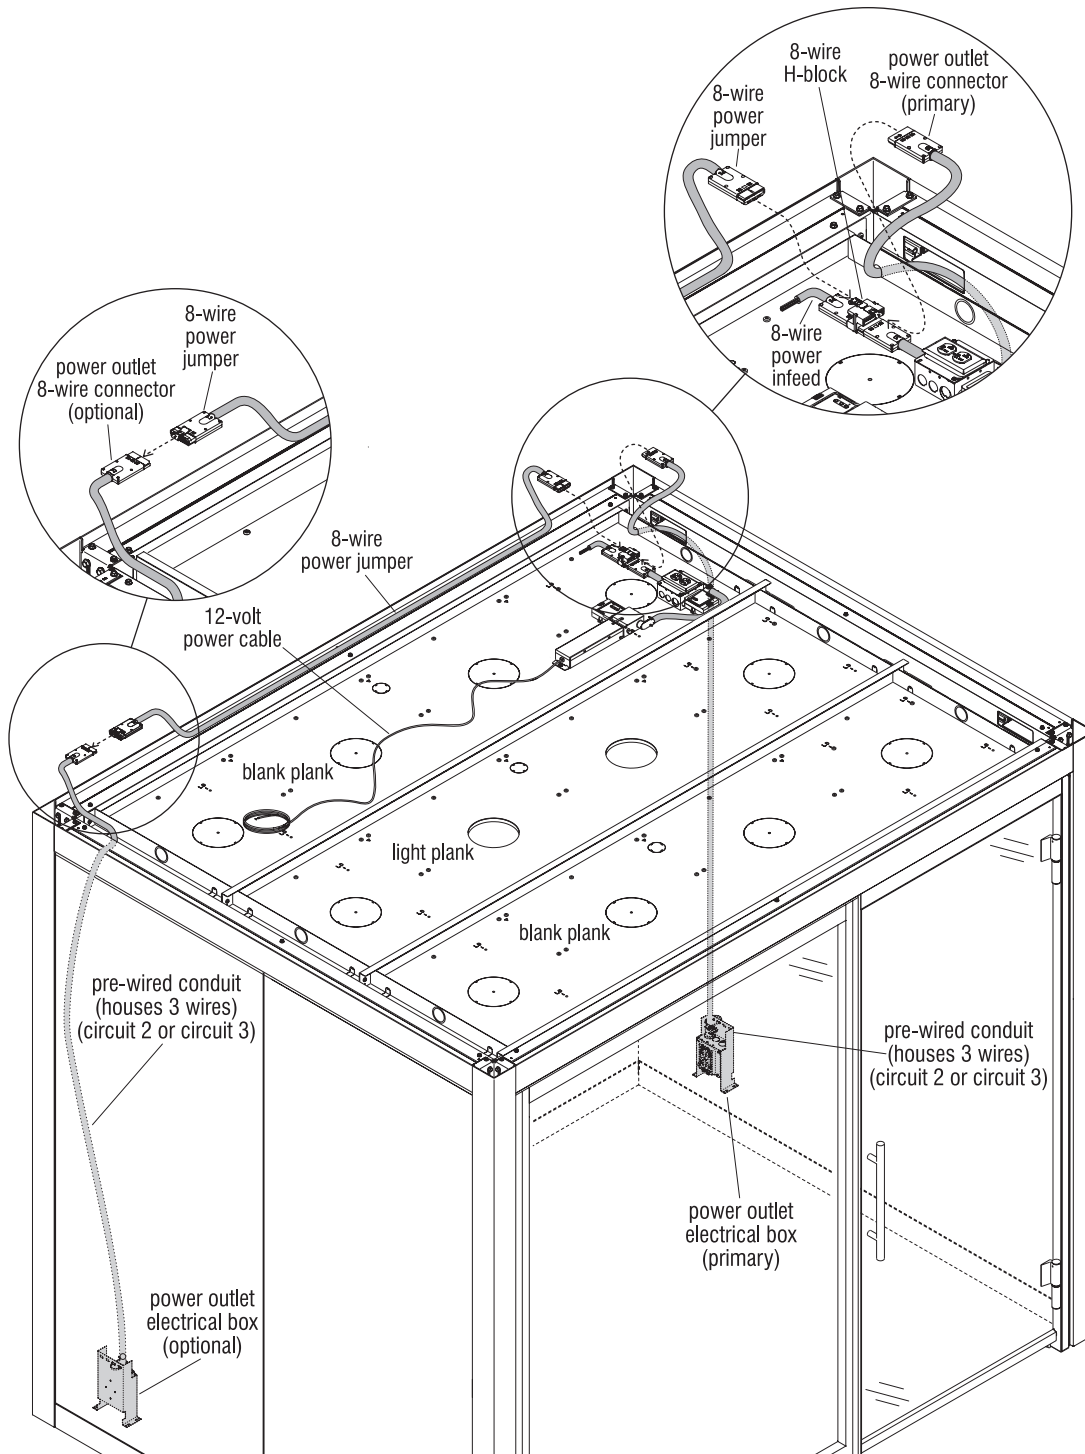

Figure 2
7. Plug the primary power outlet 8-wire modular connector into the 8-wire H-block (Figure 2).
8. If your room configuration has a second, optional power outlet in a panel at the opposite side of the room, a 10-foot long 8-wire power jumper is required. Locate the 8-wire modular connector end of the optional power outlet. Route the modular connector and flexible conduit up through the horizontal panel frame cut-out and through the top beam side cut-out. Plug the modular connector from the power outlet into a 10-foot 8-wire power jumper, run the 8-wire power jumper along the top of the perimeter beam, then plug the modular connector into the 8-wire H-block (Figure 2).